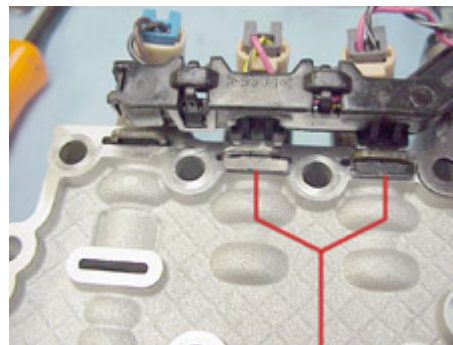

Figure 6: Reinstallation of solenoid retaining clips
- 9) Insert the solenoid retainer clips to secure the wiring harness to the valve body. When installing the clips, it helps to move the solenoids slightly to seat clips (Figure 6).